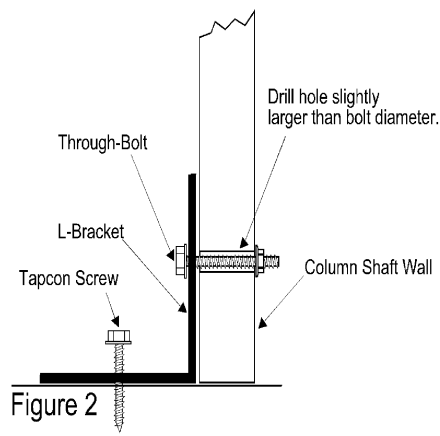

Figure 2
4. IF INSTALLATION REQUIRES SOME METHOD OF SECURING THE COLUMN IN PLACE BEFORE LOAD IS APPLIED, AN L-BRACKET WITH NUTS AND BOLTS (SEE FIGURE 2) NOTE: ALWAYS DRILL CLEARANCE HOLES IN COLUMNS AND SECURE WITH THROUGH-BOLTS -- DO NOT USE SCREWS -- AND DO NOT OVER-TIGHTEN.